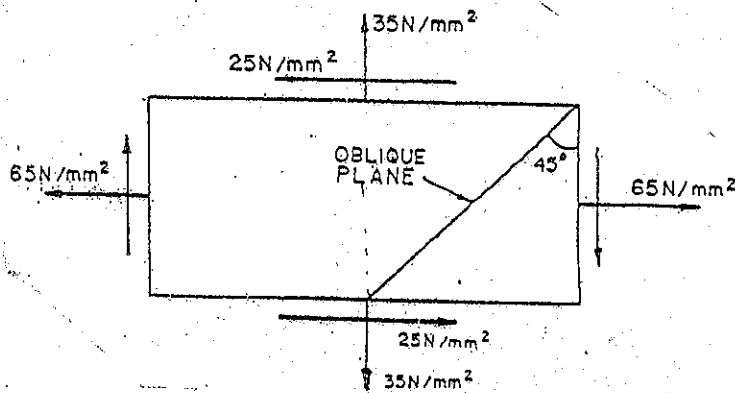

FIGURE-3.
(c) A point in a strained material is subjected to stresses as shown in **FIGURE -3**. Using **MOHR'S** circle method, determine the normal and tangential stresses across the oblique plane. Check the answer analytically. (10)